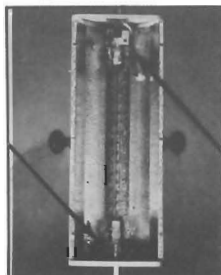

Figure 9
1. Align the flashtube so that the small trigger wire is at the end of the light where the trigger is located. (Figure 9).